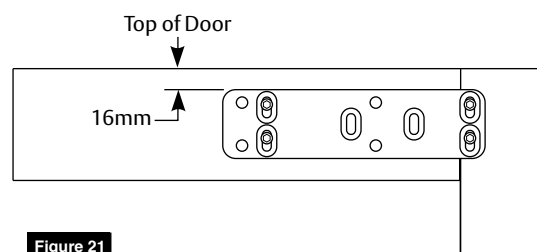

Figure 21
2. Using slot holes, position mounting bracket so there is 16mm between top of bracket and top of door then tighten screws to secure. (Figure 21)